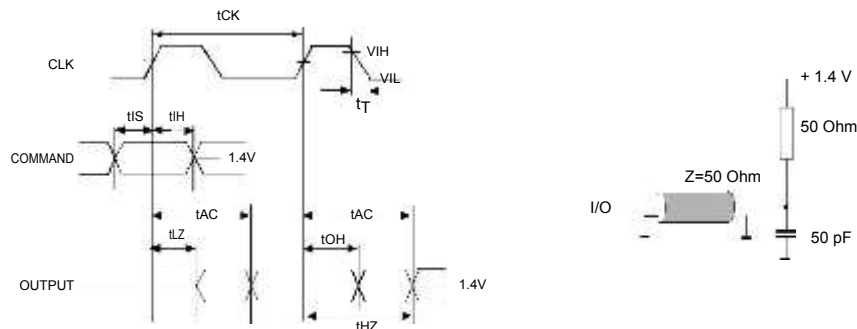

Figure 1.
2. AC timing tests have  $V_{IL} = 0.4V$  and  $V_{IH} = 2.4V$  with the timing referenced to the 1.4 V crossover point. The transition time is measured between  $V_{IH}$  and  $V_{IL}$ . All AC measurements assume  $t_T = 1ns$  with the AC output load circuit shown in Figure 1.